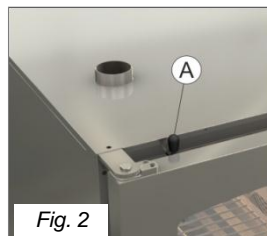

Fig. 2
**1.5C Steam release valve (Fig. 2)**